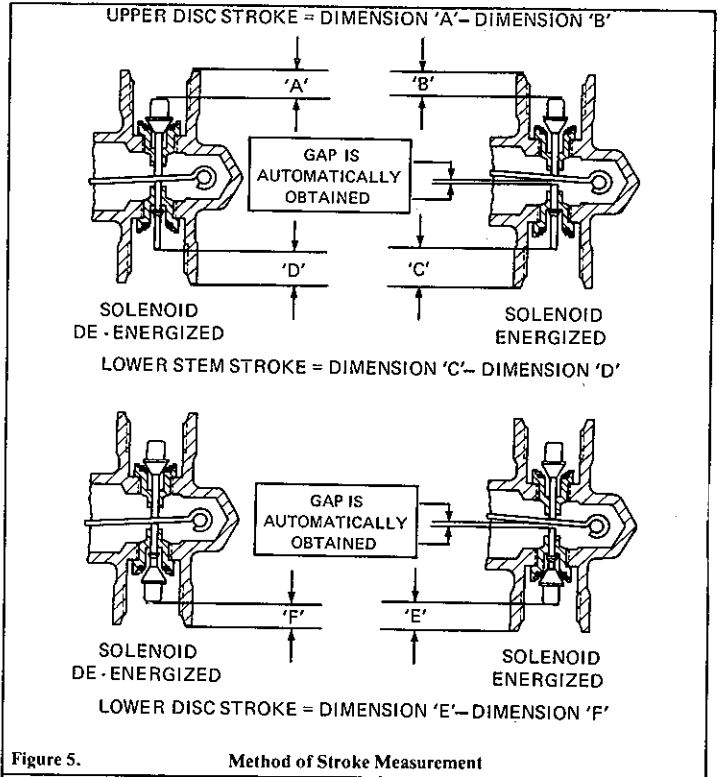
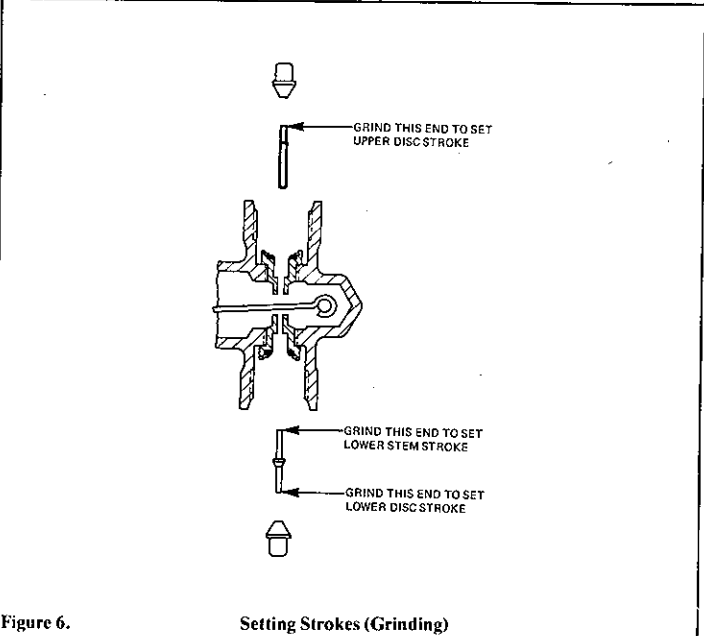

Figure 5. Method of Stroke Measurement
Figure 6. Setting Strokes (Grinding)
- New upper and lower seats and discs cannot be installed without making some minor adjustments. It is important that the stroke of the valve discs be set carefully in order to obtain the proper orifice opening and reliable operation of the valve. Check valve nameplate for the catalog number and refer to "Stroke Chart", Form No. V5940 for stroke setting requirements. Refer to Figure 5 for the method of measuring the stroke and Figure 6 for stroke setting (grinding). Spaces are provided on this sheet for your calculations.
- Place the valve in a vertical and upright position. NOTE: Solenoid and core/spring sub-assembly or core must be assembled in the valve when strokes are measured. Install upper disc stem (large diameter first and valve disc). Use a depth gauge to measure the distances. NOTE: Upper disc stem is a straight stem while the lower disc stem has a built-in stop. Refer to Figure 6.
- With valve de-energized, measure Dimension "A." Dimension "A" is from the top of the valve body to the top of the upper disc as illustrated in Figure 5.
- With valve energized, measure Dimension "B." Dimension "B" is from the top of the valve body to the top of the upper disc as illustrated in Figure 5.
The differences between the two distances "A" minus "B" is the upper disc stroke. If the stroke is more than can be allowed in the "Stroke Chart" Form No. V-5940 (according to catalog number and body type), the end of the upper disc stem (small diameter end) which contacts the upper valve disc, (see Figure 6) must be ground off until the proper stroke is obtained. After grinding, the end of the disc stem must be chamfered slightly.
The difference between the two distances "E" minus "F" is the lower disc stroke. If the stroke is more than that allowed in the "Stroke Chart," Form No. V-5940 (according to catalog number and body type) the end of the lower disc stem (small diameter end) which contacts the lower valve disc (see Figure 6) must be ground off until the proper stroke is obtained. After grinding, the end of the disc stem must be chamfered slightly.
- When the strokes have been set in accordance with Figure 5 and the "Stroke Chart," Form No. V-5940 a gap will automatically be obtained between the lower disc stem and the lever when the solenoid is energized. This gap will assure proper operation of the valve.
- **Junction Box:** This junction box construction meets Enclosure Types 2,3,3S,4, and 4X. Only solenoids with 1/4" spade or screw terminals may have a junction box. The junction box provides a 1/2" conduit connection, grounding and spade or screw terminal connections within the junction box (See Figure 5).
- **DIN Plug Connector Kit No.K236034:** Use this kit only for solenoids with DIN terminals. The DIN plug connector kit provides a two pole with grounding contact DIN Type 43650 construction (See Figure 6).